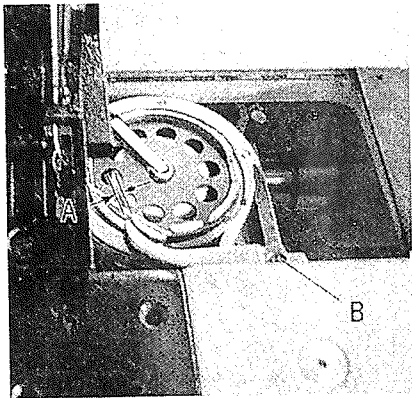

Fig.28
17. ADJUSTMENT OF BOBBIN CASE OPENER (Fig. 28)